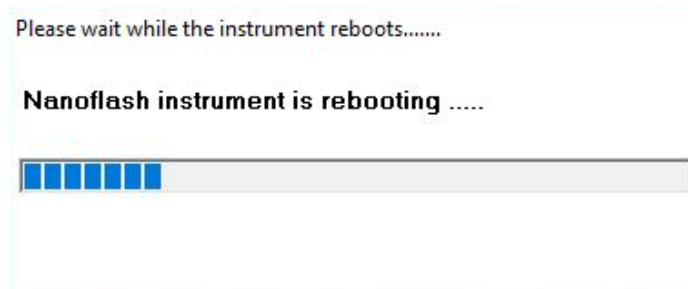

Figure 9. Rebooting pop-up window.
- A pop-up window will appear momentarily stating the instrument is rebooting (as shown in Figure 9).